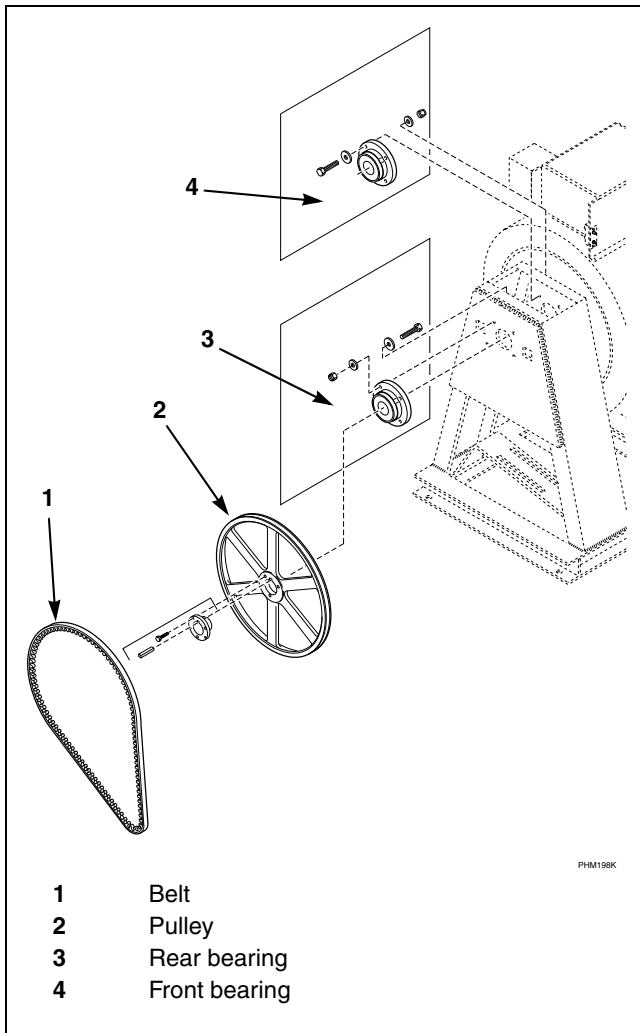

Figure 31
- h. Remove the belt from the pulley. Remove the bolts from the pulley and place them in the hub bushing. Tighten those bolts equally until the bolts force the bushing from the hub. Remove the pulley. Refer to *Figure 31*.